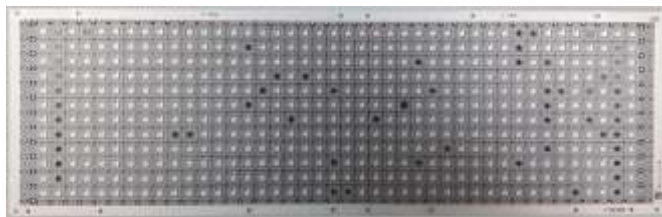

Fig. 1. Leadframe package with solder land pads.
- Emerging technology on semiconductor packaging offers leadframe packages with one connection layer comparable to a substrate, as shown in Fig.1 with a one-panel or one-map strip design